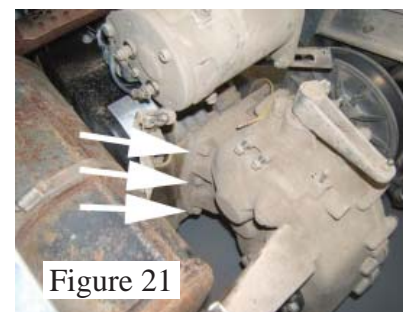

Figure 21
20. Remove the six 14 mm engine to transmission nuts and bolts. (See Figure 21).